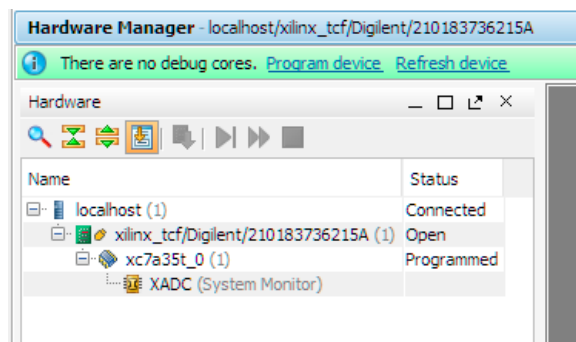

Figure 27. FPGA is connected
31. If the FPGA was correctly connected then the FPGA should be listed as shown in Figure 27.
32. Next click on the "Program Device" link from the top of the "Hardware Manager" window (see Figure 27) and select the FPGA chip (in our case it should be xc7a35t_1). Next you'll get a new win-